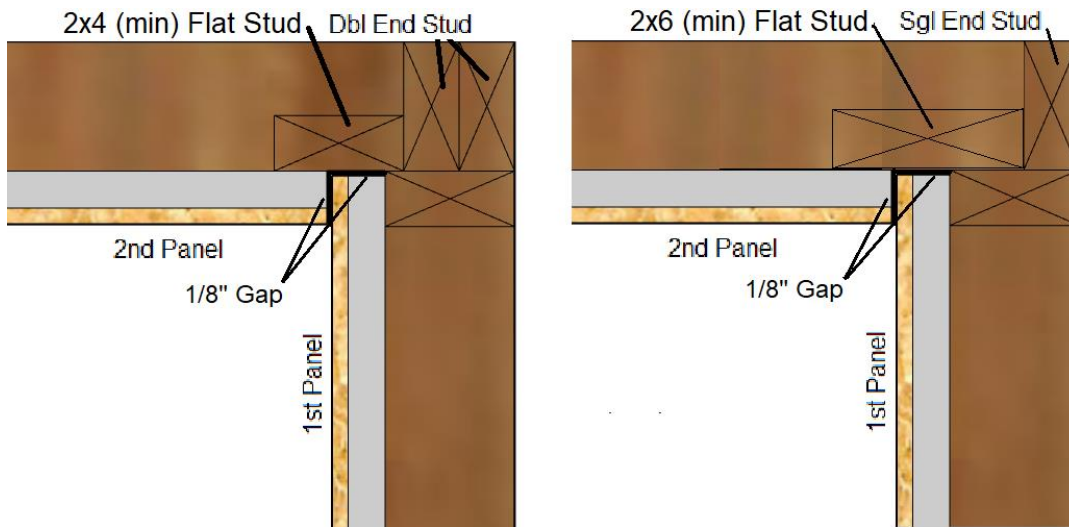

Figure 2: Installing LP NovaCore™ panels at inside corners.
- Inside corners (see Figure 2): Install the 1st panel into the flat stud of the connecting wall (leave an 1/8" gap). Install the 2nd panel from the other side to leave an 1/8" gap with the 1st panel. Two options are shown. The details shown assume 2x4 wall framing. Adjust as needed for 2x6 wall framing.